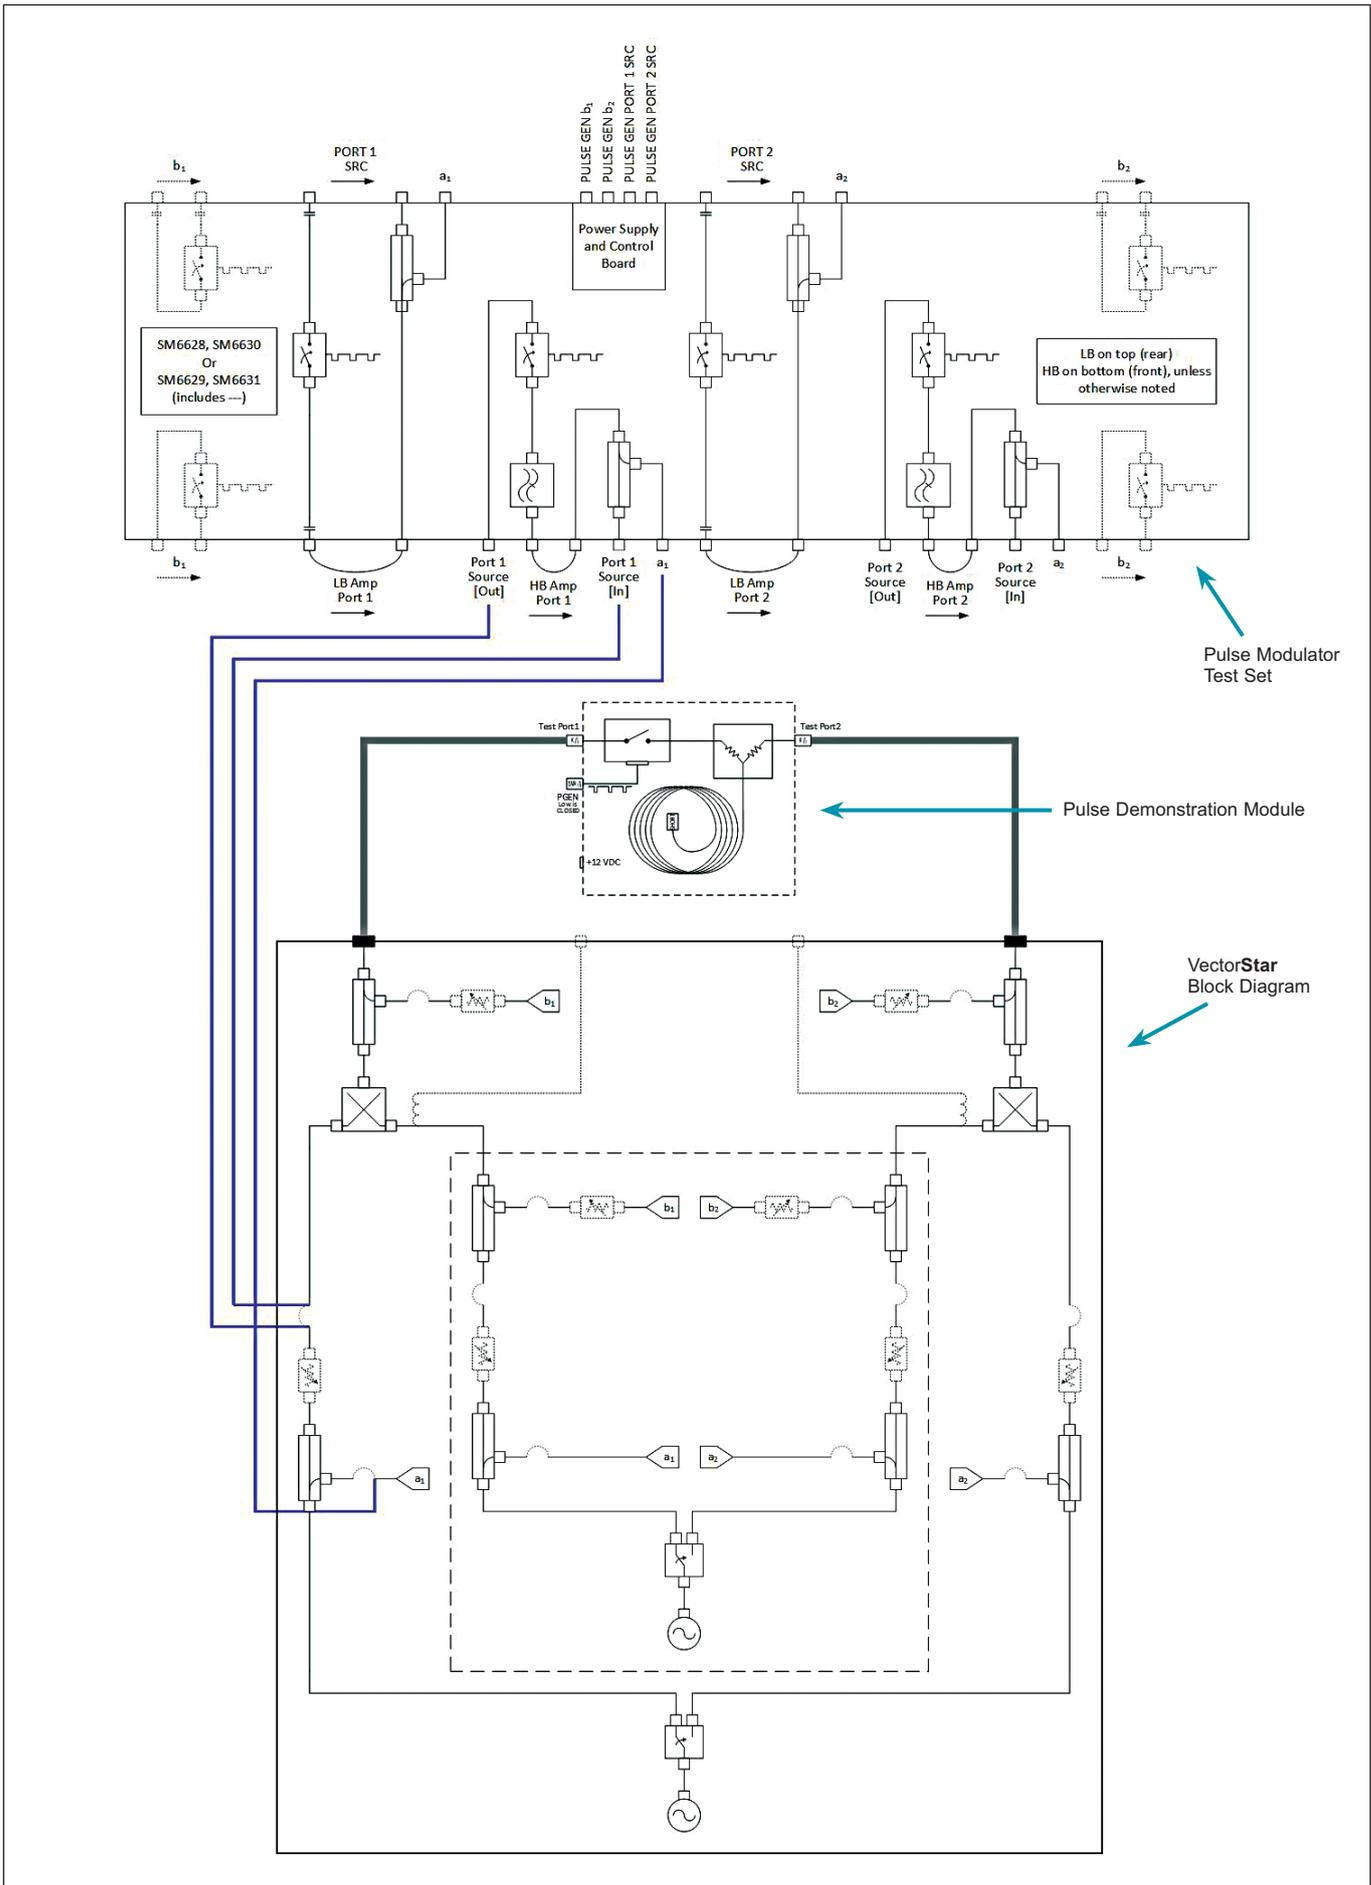

Figure 10. Example Test Configuration using a Pulse Modulator Test Set.
Recall that in this example configuration, RF pulsing is occurring in the Pulse Demonstration Module. As a result, the reference signal is continuous wave (CW). In some applications, it may be preferable to use an Anritsu Pulse Modulator Test Set to modulate the RF stimulus either as an alternate to the DUT modulation or in addition to the DUT modulation; see Figure 9. When a Pulse Modulator Test Set is used to provide a pulsed RF stimulus, the pulsed stimulus can be sampled and provided to the reference receivers. In that case, the user can capitalize on additional **PulseView** capability. See Figure 10 for an example configuration.
**PulseView enables measurement receivers to be configured independently.** With the Anritsu Pulse Modulator Test Set, the modulated stimulus can be provided to the reference receivers (e.g.,  $a_1$ ); see Figure 10. Each receiver can then be independently controlled to achieve specific measurement results. In many cases, the user may want to avoid the transients in the reference signal. **With independent measurement receivers**, the user can select a more stable part of the pulsed signal as the reference measurement. To demonstrate this, the Pulse Modulator Test Set will now be used in this example measurement to modulate the RF signal rather than the Pulse Demonstration Module. Then, the reference receiver will be independently controlled to make a stationary measurement (i.e., the profile start and stop times will be the same) with a width that covers a significant portion of the essentially flat part of the pulse. Despite the measurement being stationary, the number of points must remain the same across all measurement receivers.